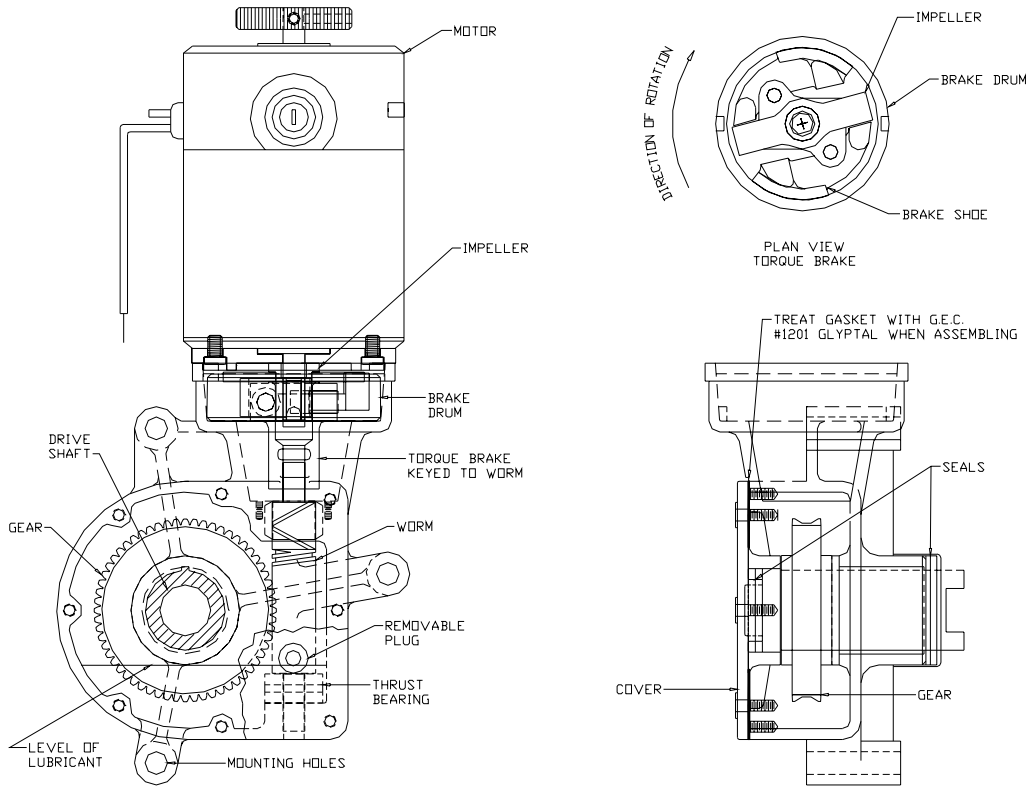

Figure 17 – Motor, Torque Brake and Gear Reducer
The torque brake (see Figure 17) applied between the motor and the gear reducer unit serves as a coupling and controls the over travel of the motor closing cam when the motor is de-energized. This torque brake assembly consists of three units; (1) brake assembly keyed to gear reducer, (2) impeller keyed to motor shaft, and (3) brake drum keyed in the gear housing. When the motor is energized, the impeller releases brake shoe from the brake drum and transmits torque directly to the gear reducer. When the motor is de-energized, the motor torque on the impeller is released permitting the brake shoe to engage on brake drum and stop the mechanism.
properly located on brake (see Figure 17) and spacing washers when used between the impeller and motor, should be replaced. Rotate hand wheel on motor to insure that no binding is present before operating.